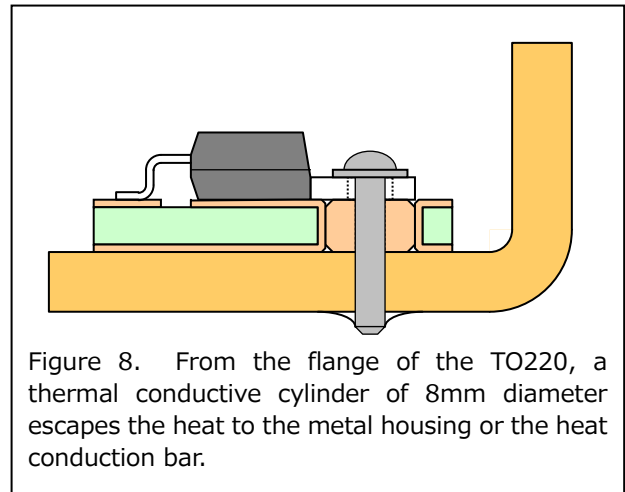

Figure 8. From the flange of the TO220, a thermal conductive cylinder of 8mm diameter escapes the heat to the metal housing or the heat conduction bar.
Another way of releasing heat more effectively is to transfer heat directly from a TO220 SMD power resistor (RMP20S or RMP50U) to a thermally conductive bar via an 8-mm diameter copper cylinder, ultimately releasing the heat to the metal chassis, as shown in Figure 8. The thermal resistance of the resistor is 2.3°C/W (for the RMP50U), the thermal resistance of the flange is 0.2°C/W, and the thermal resistance of the cylinder is 0.1°C/W, giving a total of 2.6 °C/W. Assuming that the temperature of the metal chassis is 50°C and the upper limit of the operating temperature range is 155°C,  $P (W) = (155^{\circ}C - 50^{\circ}C) / 2.6^{\circ}C/W = 40 W$ . Thus, it is possible to consume up to 40 W of power in the resistor and release the heat to the surrounding air. It can be said that, if a resistor is to be SMD on a printed circuit board, and then several tens of W are applied, it is better to use a TO220 surface-mount resistor and release the heat through the screw used for securing the flange, rather than using a D2PAK resistor.